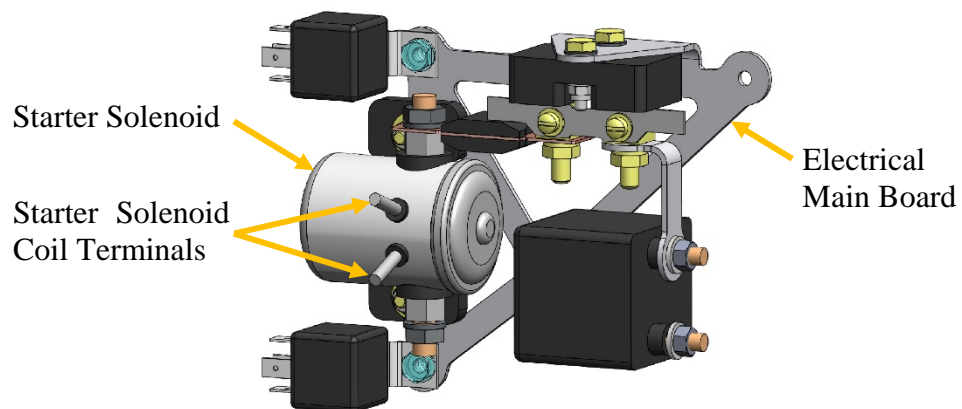

Figure 1: Starter Solenoid on Electrical Main Board
3. The starter solenoid is installed on the electrical main board, see Figure 1 and 2. The electrical main board is installed behind the LH landing gear cuff, see Chapter 51-00-01 of the EXTRA NG MM.